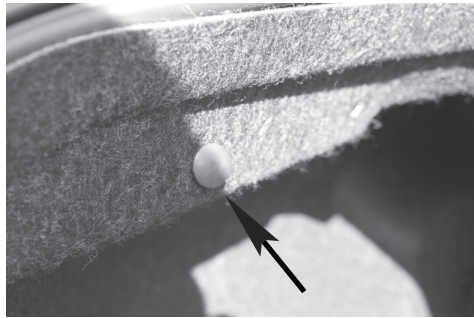

Figure 1
2. Open the trunk. Using a flat screwdriver remove the 2 plastic clips on each side of vehicle shown in **Figure 1**.